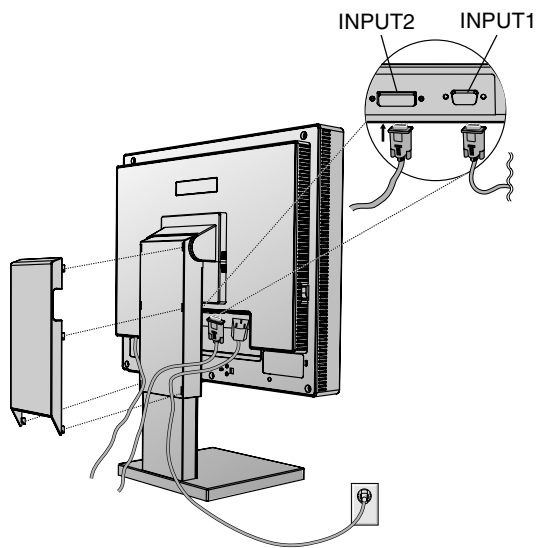
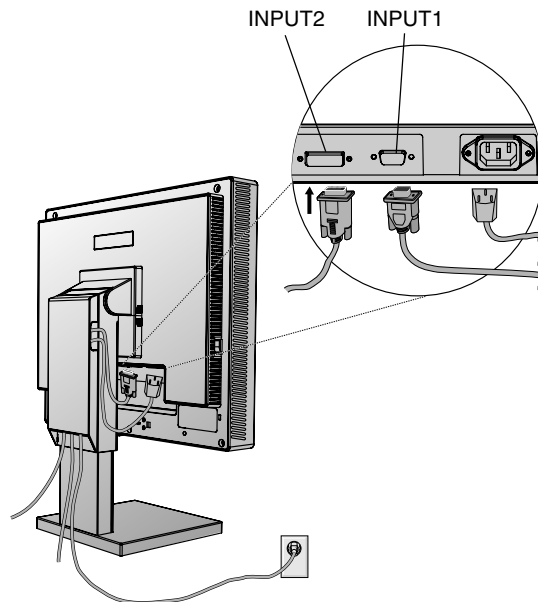

Figure C.1
Figure C.2
3. **For the PC or MAC with DVI digital output:** Connect the DVI signal cable to the connector on the back of the monitor. Place the video signal cable (**Figure C.1**). Connect only DVI to input 2.
**For the PC with Analog output:** Connect the 15-pin mini D-SUB to the connector on the back of the monitor. Place the video signal cable (**Figure C.1**). Connect only 15-pin mini D-SUB to input 1.
Collect cables and keep them at backside of the stand (**Figure C.1**). And cover the cables by the optional Cable management Cover (**Figure C.2**).
4. Connect one end of the power cord to the AC inlet on the back of the monitor and the other end to the power outlet (**Figure C.1**).